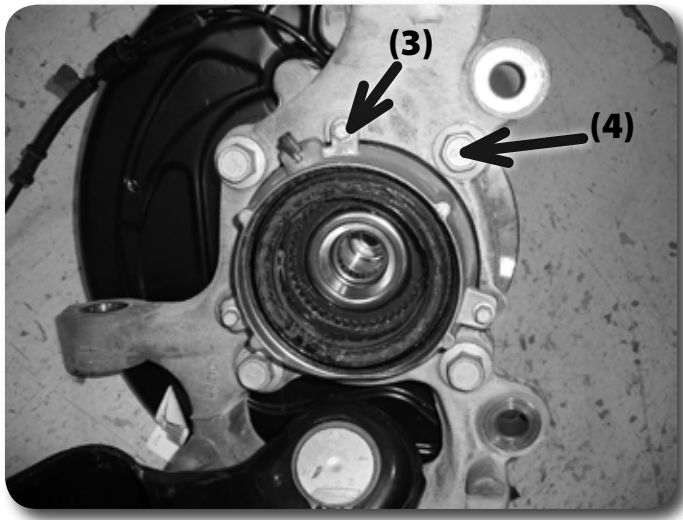

Figure 31
56. Remove the four hub bolts from the knuckle and remove the hub from the knuckle **Figure 31**. Inspect mounting surface of the hub assembly and clean any dirt or corrosion off as necessary.